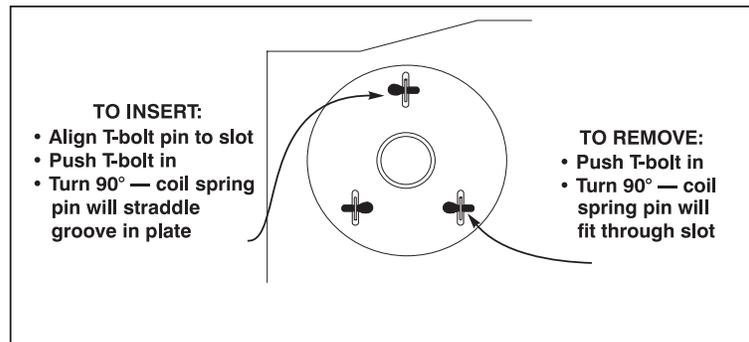

Figure 4.6. Using the T-bolts
- Push the lamp all the way back and make sure the pin on each T-bolt aligns with its slot on the alignment plate—slowly turn each until the clearance slot is located. Then push and turn each T-bolt **90°** to lock. See Figure 4.6.